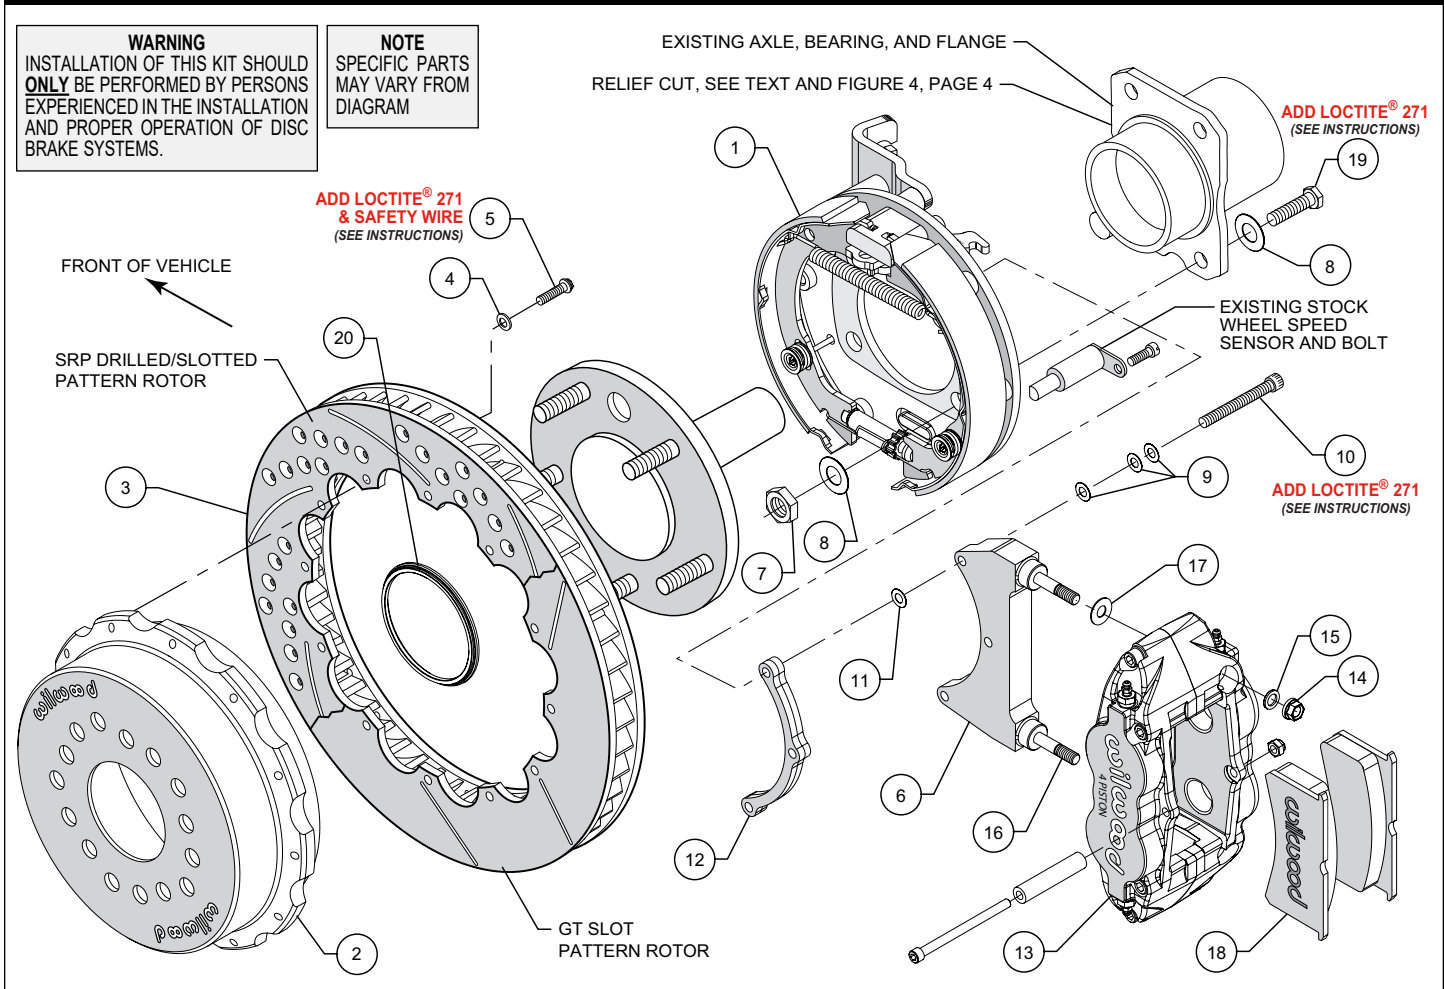

Figure 1. Typical Installation Configuration
- Slide the rotor registration adapter (20) onto the axle register on the axle flange with the smaller O.D. facing toward the rotor/hat (2). Align the correct hole pattern in the hat with the stud pattern on the axle flange. **NOTE:** *Some OEM and aftermarket axles come with stud sizes larger than 0.50" diameter.* Verify stud size and have a qualified machine shop drill the hats to the correct size, if necessary. Slide the hat/rotor assembly (2 and 3) over the wheel studs covering the bracket kit assembly (1) and against the axle flange face. Check to be sure the hat seats squarely against the hub. Install a couple of lug nuts (finger tighten) to keep the rotor/hat assembly in place while continuing with the installation.
- NOTE:** *Please reference the caution statement at the beginning of the assembly instructions.* The caliper mounting bracket assembly (6) should be installed first with clean, dry threads on the mounting bolts (10). Install the bracket from the rear side of the bracket kit assembly (1) by sliding bolt (10) through three flat washers (9), bracket (6), shim washer (11) and finally through the spacer (12), see Figure 1. **NOTE:** *End of bolt should not exceed inside face of insert. The bracket must tighten squarely against the back side of the bracket kit assembly (1).* Inspect for interference from casting irregularities, machining ridges, burrs, etc. Use one thin shim (11) between the bracket (6) and spacer (12) during initial trial fitting.
- Install one shim (17) over each pre-installed stud (16) on the radial mount bracket (6). Slide the caliper (13) in place over the studs and rotor, then install the washer (15) and lock nut (14) to hold the caliper in place. Snug the lock nuts (14) and check that the rotor (3) is centered in the caliper (13). Add or subtract .015" shims (11) as necessary between the caliper mounting bracket (6) and the spacer (12) to center the caliper (13).
- Remove the caliper center bridge pad retainer bolt, nut, and tube from the caliper. Slide the brake pads (18) into place. They should install easily without interference. Check that the outside radius of the brake pad is aligned with the outside radius of the rotor. Add or subtract shims (17) between the caliper (13) and mount bracket (6) to gain the proper alignment. Reinstall the center bridge pad retainer tube, bolt, and locknut. The locknut should be snug without play in the bolt or tube. Be cautious not to over tighten.
- Adjust the parking brake shoes outward (using a drum shoe adjustment tool available at your local auto parts store) while turning the hat (2) until a slight drag is felt against the hat/drum. Remove the lug nuts that were holding the hat/rotor in place. Install the wheel and lug nuts. Check to see that the wheel rotates freely without interference.
- Once all clearances have been checked, remove the wheel, caliper, hat/rotor from the bracket kit assembly (1). Secure the caliper mounting bracket (6) to the bracket kit assembly (1) using red *Loctite*® 271. Torque bolts (10) to 180 **in-lb**. Reinstall the hat/rotor assembly and again use lug nuts to hold it in place. Reinstall the caliper and torque the caliper nuts (14) to 30 ft-lb.
- NOTE:** *Clevis and cable kits which attach to the parking brake assembly are not included in the Wilwood parking brake kit.* Wilwood offers a parking brake cable kit, P/N 330-11221 for 2005-2010 and P/N 330-12335 for 2011-present which can be ordered separately from your local Wilwood dealer or by calling Wilwood customer service at (805) 388-1188.